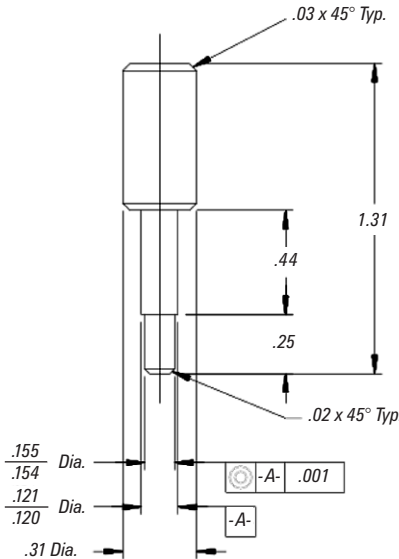

Figure 15 Relay Alignment Tool
An alignment tool (Figure 15) is not essential for assembly of the relay, but using the tool will prevent excessive air consumption and dead band. The tool is supplied with all replacement relays parts kits or can be ordered individually.
4. Insert the small end of the alignment tool (Figure 15) into the opening in the upper relay body. If the tool does not engage the hole in the diaphragm assembly, move the relay parts slightly until it engages completely. The alignment tool must be left in plane until all screws are tightened.